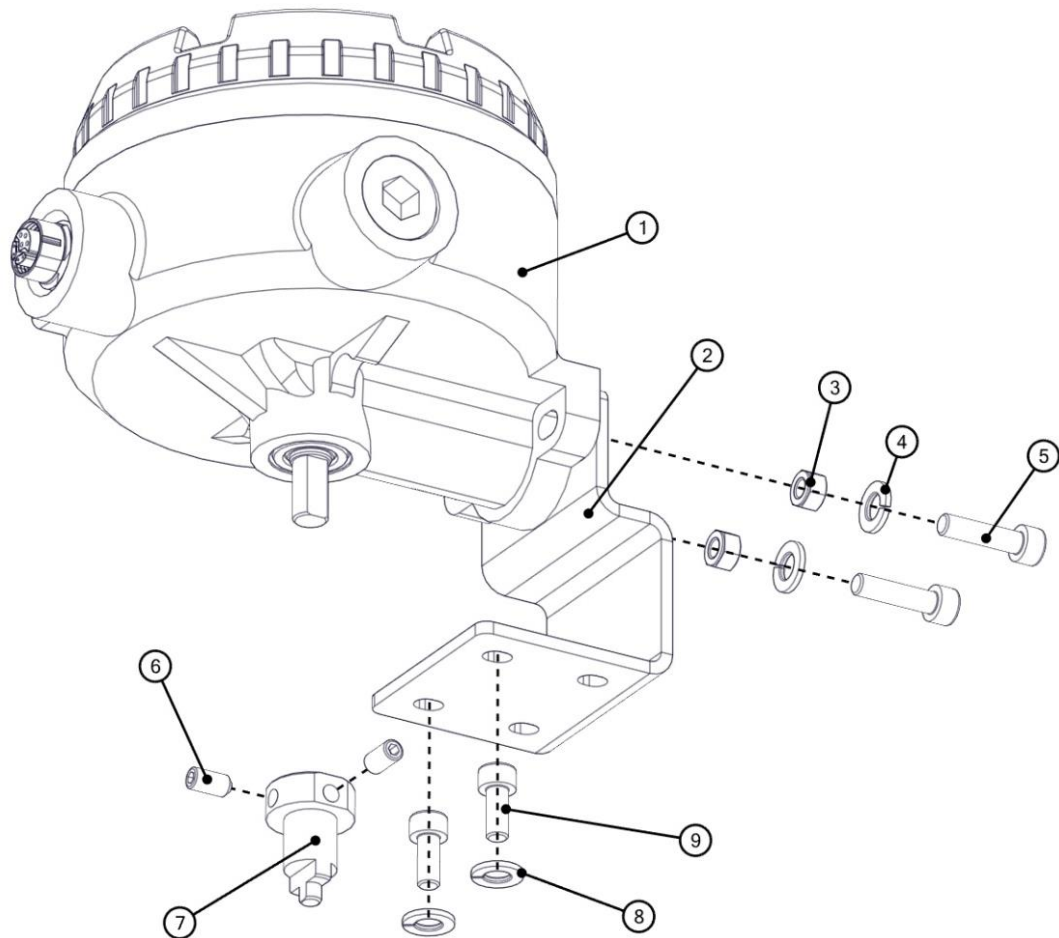

Figure 10: Attaching coupling and bracket to Remote unit
11. Attach the mounting bracket to the Remote unit using the Hardware items indicated in the figure 10 above.